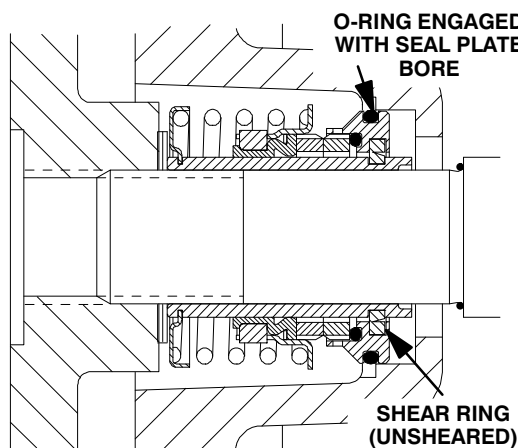

Figure 12. Seal Partially Installed
Clean and inspect the impeller as described in **Impeller Installation and Adjustment**. Install half of the set of impeller shims (2) provided with the seal, and screw the impeller onto the shaft until it is seated against the seal (see Figure 12).